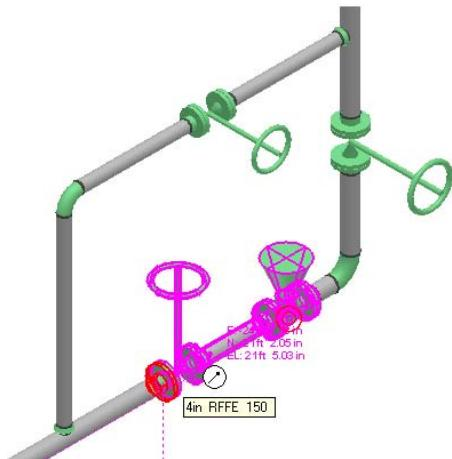

Figure 21: Origin of the Move Vector
9. Select the gate valve **port1** as the origin of the move vector, as shown in Figure 21.